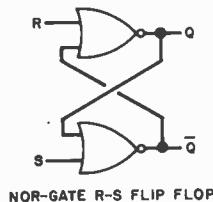

Fig. 13
The R-S Flip-Flop. An R-S flip-flop is a one-bit digital memory whose output is set to the one state by a one on an input set (S) line and to the zero state by a one on another line, called the reset (R). An incomplete truth table for this device is sketched in Fig. 13. It is incomplete because the output stable state is specified not only in terms of ones, zeros, and don't cares, but depends in addition on the present (unstable) state q . We can form a complete truth table by including q as one of the input variables, thus creating a feedback situation. The complete truth table is also shown in Fig. 13, along with the resulting Karnaugh map and the derived logic equation for the state Q . Note that we must always have $RS=0$ (called the RS flip-flop constraint) to
keep from violating the condition that $R=S=1$ must never occur. Figure 13 also shows how DeMorgan's Law is used to get the function into a form requiring only NOR gates for its construction. By assuming all three possible combinations of input variables (remembering the $R=S=1$ is disallowed from ever occurring) and computing outputs, the truth table can easily be verified. It is also easy to show in this way that the output labeled Q is, indeed, the complement of the output labeled \bar{Q} for all input conditions except the disallowed $R=S=1$.